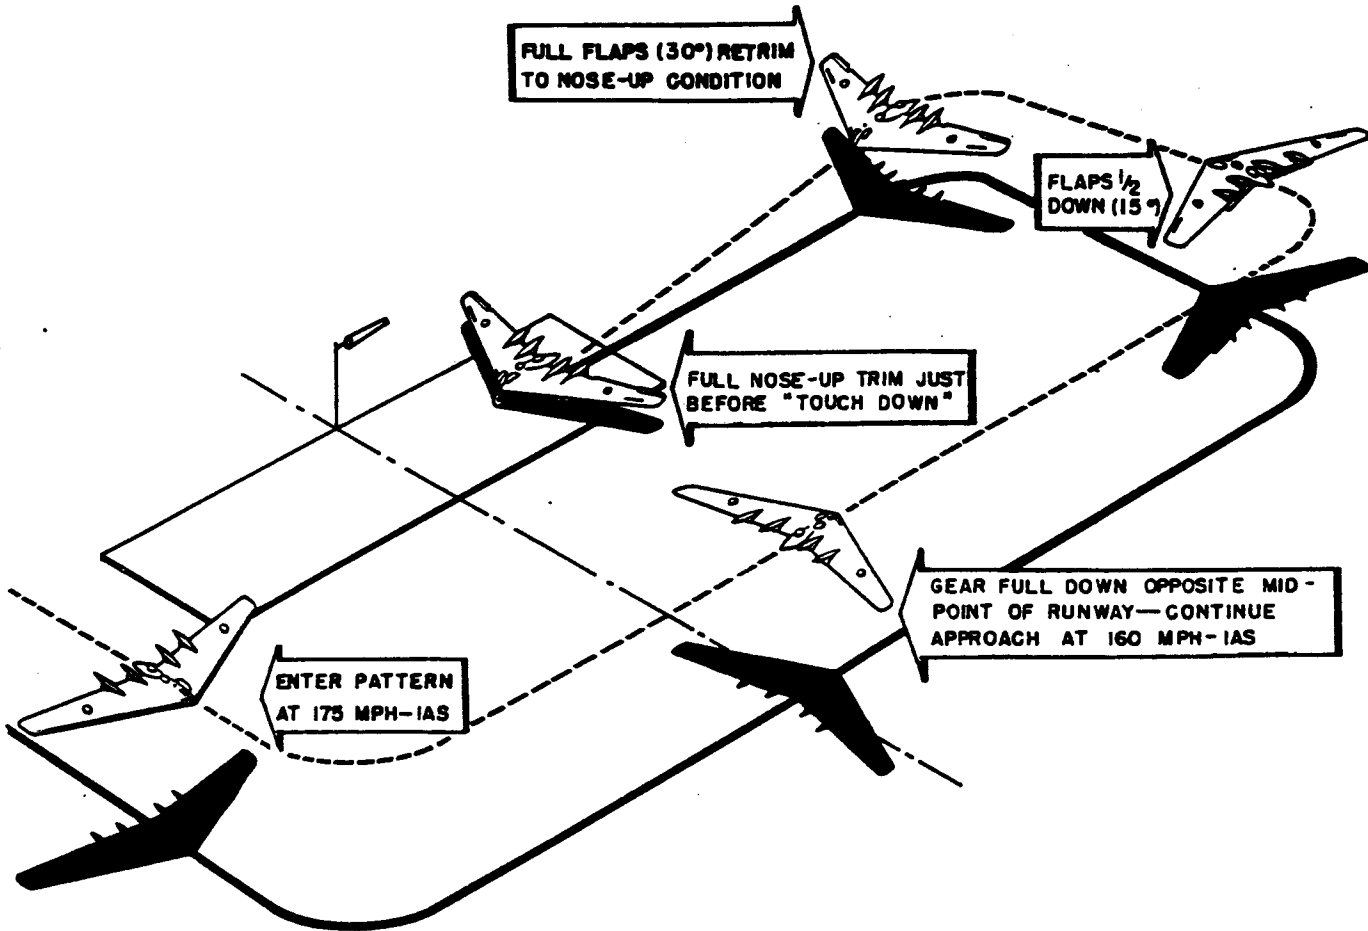

Figure 6. Traffic Pattern
(2) Pulsation is the second phenomenon. It is more likely to occur than "collapse," and is a characteristic of highly supercharged engine installations, operating at high altitudes. It is caused by the stalling of the compressor-impeller and diffuser blades. It occurs when power is reduced while holding a relatively high manifold pressure, thereby creating a condition where the engine cannot use all the air the
20. LANDING APPROACH. (See figure 6.)